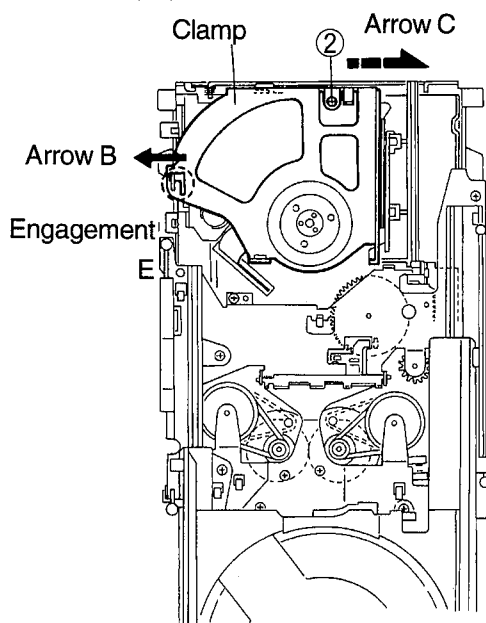

Fig.3
5.Remove the one screw 2 retaining the clamber (See Fig.3).
6.After moving the clamber in the arrow B direction and shifting it in the arrow C direction, take it out from the engagement section B(See Fig.3).